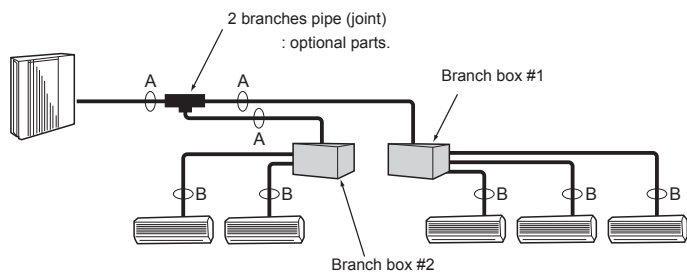

Fig. 4-3
4.3.2. Connection with Branch Box (Fig. 4-3)